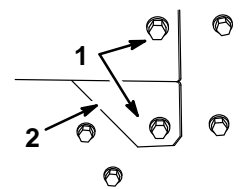

Figure 11
- Mount the front of the battery mounting plate to the engine frame and idler assembly with two 25 mm (1") lg. flange head capscrews (Fig. 11).